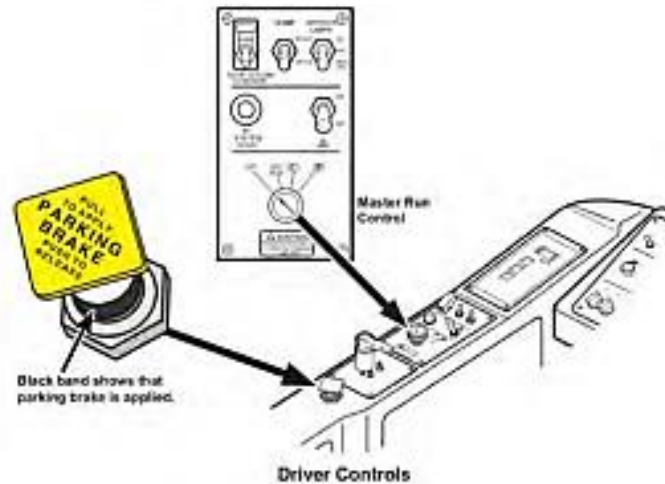

Fig. 4.17: Parking break
2. Set the parking brake and select “Neutral” on the push-button Shift selector and turn the Master Run Control to the “OFF” position, as indicated in Fig. 4.17: